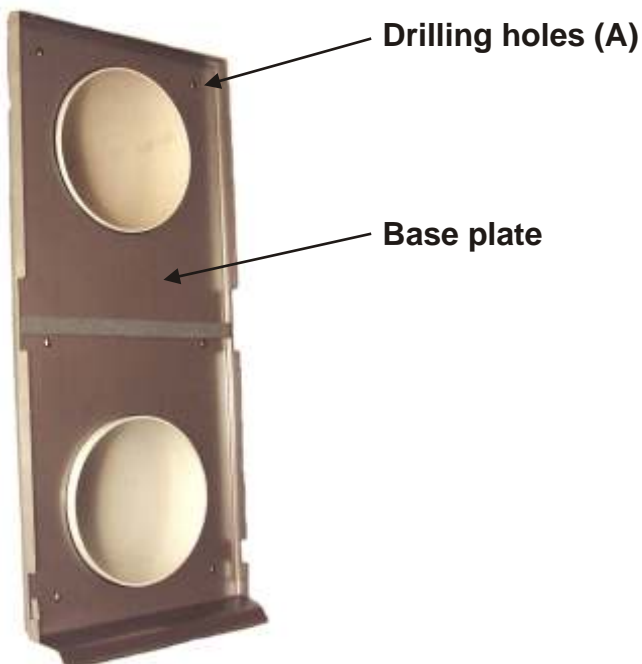

Figure 3
- 4** 1. Position the base plate on the external wall and mark out the predrilled holes [Figure 3(A)].